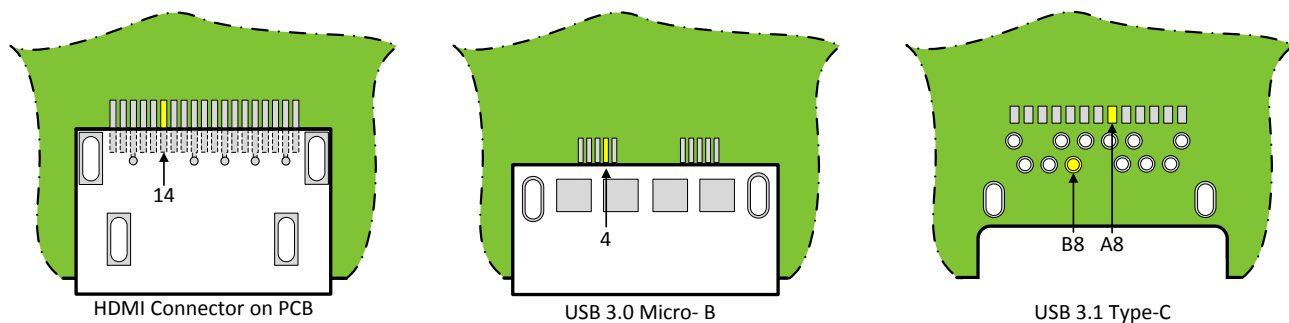

Figure 1. Possible Unused Pins (Highlighted Yellow)
Many interfaces (i.e. cable connectors like HDMI, DVI, USB, etc.) include pins which might not be utilized in a system design. For example, the HDMI Type-A connector's Pin 14 (Utility) can be used for an HDMI Ethernet and Audio Return Channel (HEAC). Without this feature, Pin 14 is unused. For DVI, a Dual-Link connector can be used in a Single-Link system, resulting in 6 unused pins. For a USB 3.0 Micro-B connector, Pin 4 (ID) can be used optionally. For a USB 3.1 Type-C connector, not all signals are required in all platforms or devices. For example, the two Sideband use Pins A8 and B8 are shown, highlighted, as unused in Figure 1.